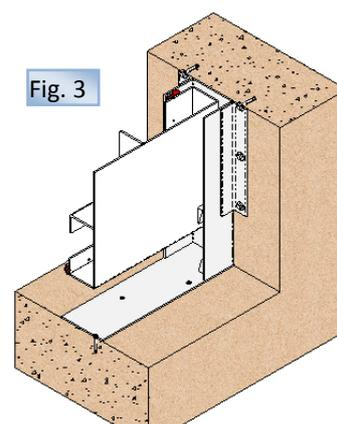

Fig. 3
- Proceed as follows to mount the penstock using chemical or expansion anchors (fig. 3):